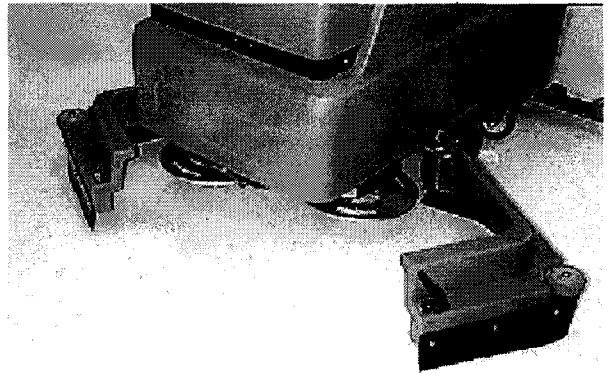

FIG. 7
- Unfasten black latch at front of machine and hinge open skirt housing to access motor hub (*Figure 7*).